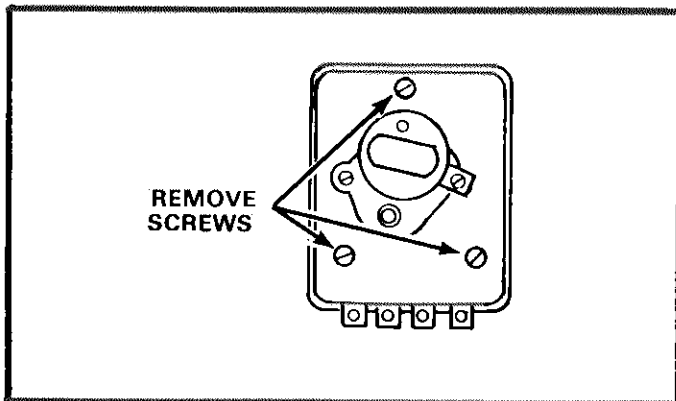

FIGURE 5
- 3 - Remove mounting screws and timer cover as shown in figure 5.